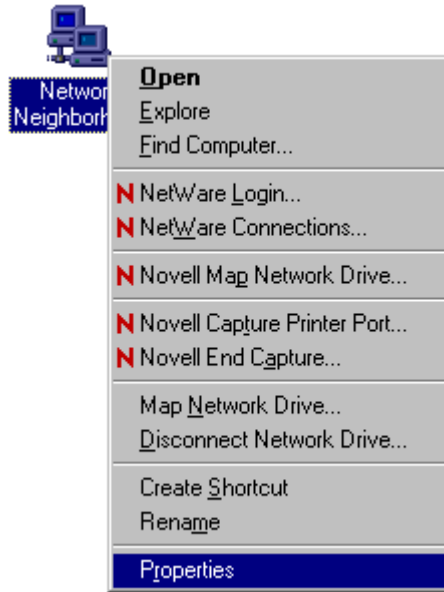

Figure 55 Network Neighborhood Icon and Menu
1. From the desktop, right-click the **Network Neighborhood** icon, then select **Properties** from the menu, as shown in Figure 55.